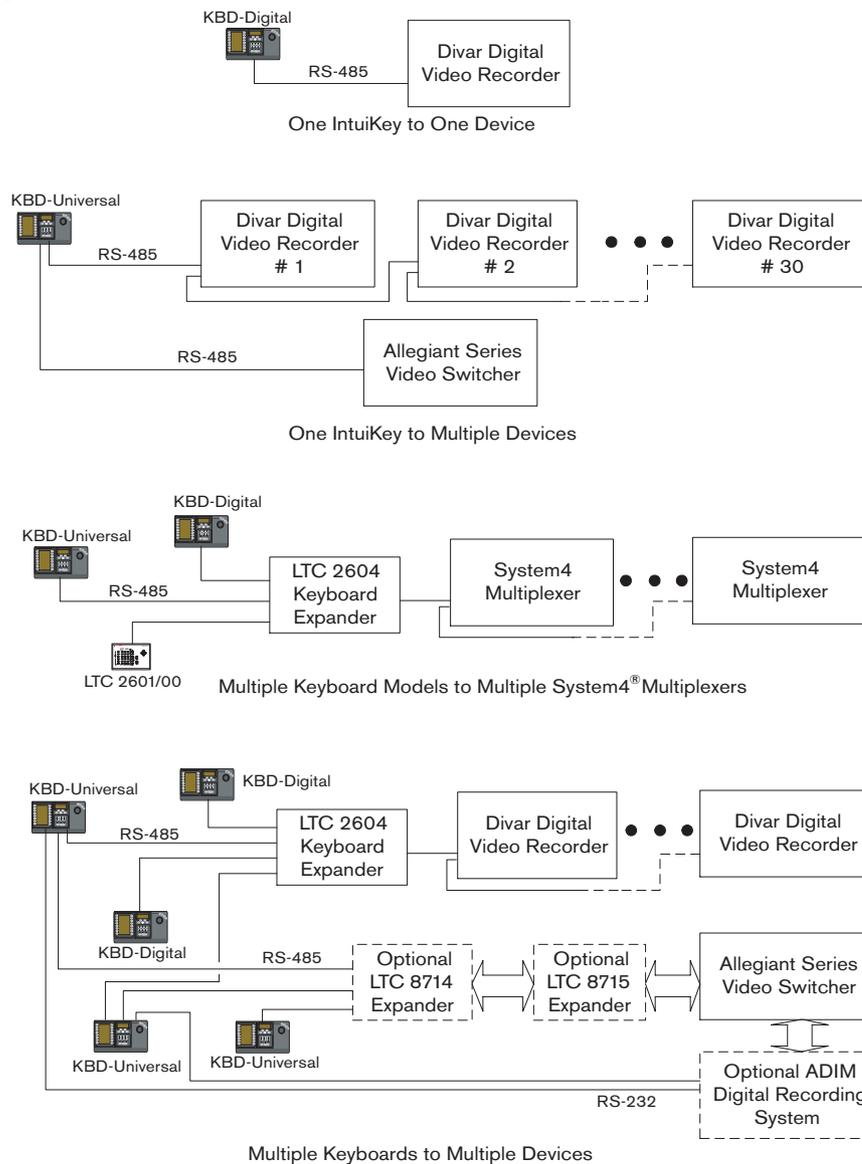

FIGURE 2-1 Basic IntuiKey System Configurations
The IntuiKey is capable of controlling up to thirty (30) multiplexers/DVRs and one (1) video switcher simultaneously. FIGURE 2-1 illustrates basic IntuiKey system configuration with these devices. If more than one IntuiKey is to be connected to a single multiplexer or group of daisy-chained multiplexers, a keyboard port expander must be added. The Allegiant Series of video switchers have a varying number of keyboard ports